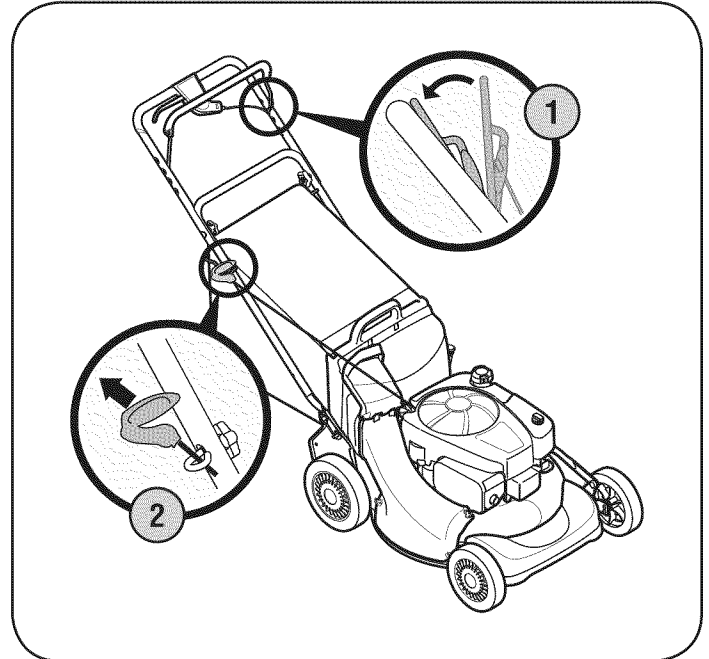

Figure 11
1. Standing behind the mower, squeeze the blade control handle against upper handle. See Figure 11.
2. Holding these two handles together firmly, grasp recoil starter handle and pull rope slowly until resistance is felt, then pull with a rapid, continuous, full arm stroke. See Figure 11. Keeping a firm grip on the starter cord handle, let the rope rewind slowly. Repeat until engine cranks. Let the rope rewind each time slowly.